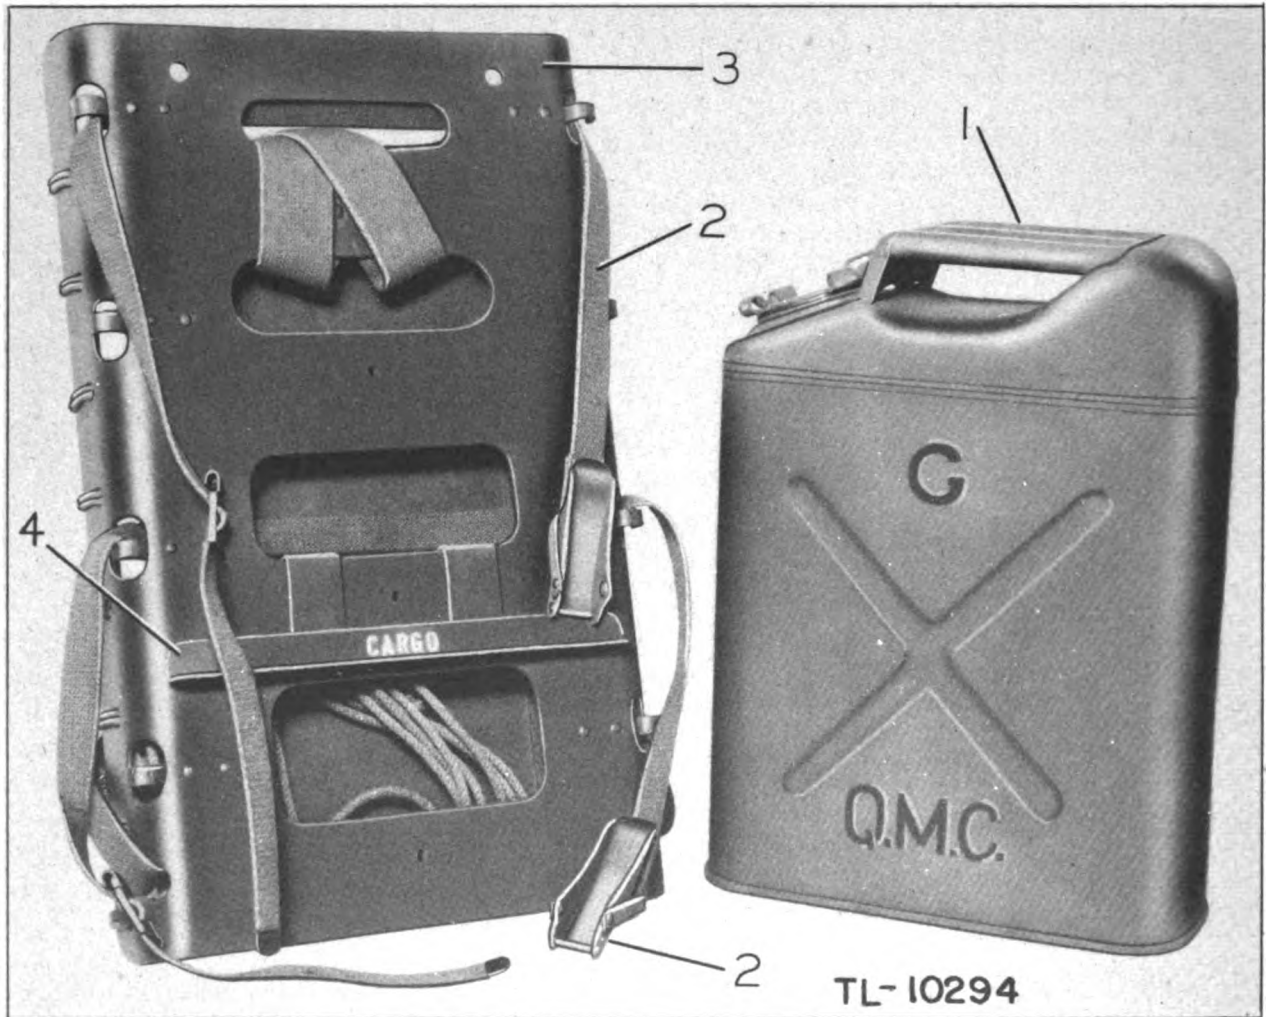

Figure 3—Gasoline Drum Unpacked.
The complete list of component items of Radio Set AN/TRC-2 are shown in a distributed form in Figures 3, 4, 5, 7, 8, 16, 29 and 81. The main components are described below.
Fuel for Power Unit PE-162 is carried in six 5-gallon cans (QMC No. 42-B-1280), as shown in Figures 3 and 25. The cans may be loaded with pre-mixed fuel; or oil may be carried in one container, and gasoline in the remaining containers.
b. Open the crate of gasoline cans and fasten each can to a packboard, as shown in Figure 25. Install attachment (Item 4, Fig. 3) to packboard if not already mounted. Fill cans as directed in paragraph 20. The mixed fuel method (par. 11) should be used to prevent the possibility of anyone using non-lubricated fuel in Power Unit PE-162.